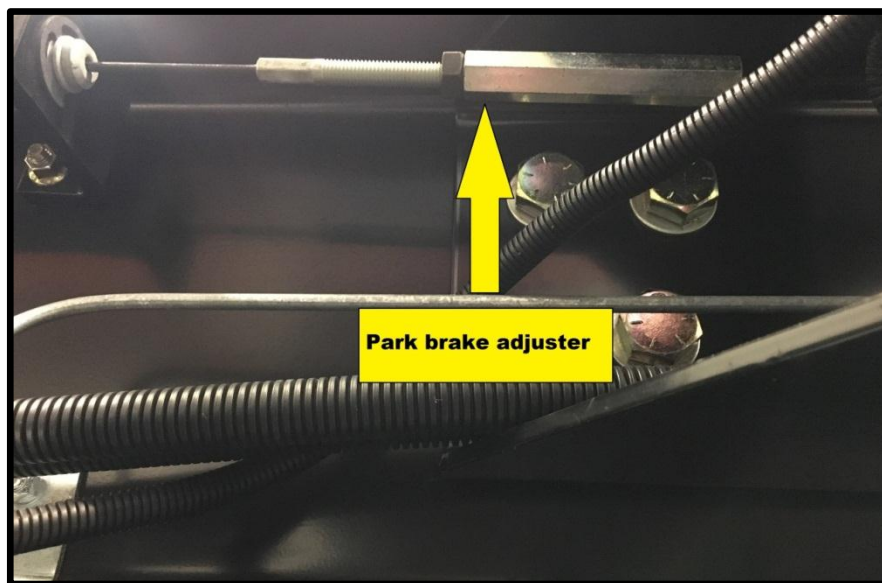

FIG. 2-1
2. Locate park brake adjuster and jam nut, on driver's side frame rail, forward of drive axle by cross member. Refer to FIG. 2-1.